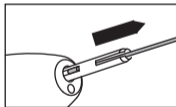

Fig. 4
- 2) Insert the supplied bur stopper into the chuck. Pull out the Bur Stopper by hooking slit of Bur Stopper (Fig. 4)